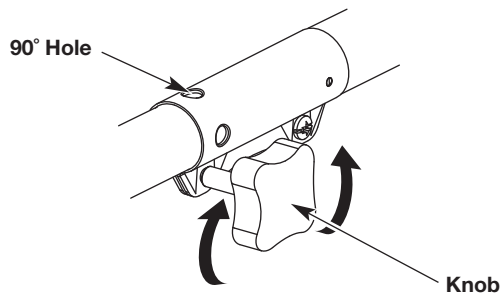

Fig. 1
1. Turn the knob counterclockwise to loosen (Fig. 1).
3. Turn the knob clockwise to tighten (Fig. 1).
CAUTION: Before operating this unit, be sure that the release button is fully snapped into the 90° hole and that the knob (Fig. 1) is securely tightened. Using the wrong hole could lead to personal injury or damage to the unit.